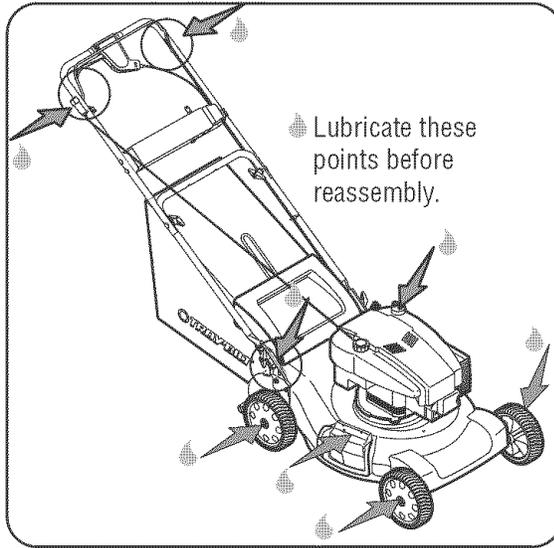

Figure 11
1. Lubricate pivot points on the blade control at least once a season with light oil. The blade control must operate freely in both directions. See Figure 11.
2. Lubricate the wheels at least once a season with light oil (or motor oil). If wheels are removed for any reason, lubricate surface of the axle and inner surface of the wheel with light oil. See Figure 11.
3. Lubricate the torsion spring and pivot point on the rear discharge door and side mulch plug periodically with light oil to prevent rust. See Figure 11.